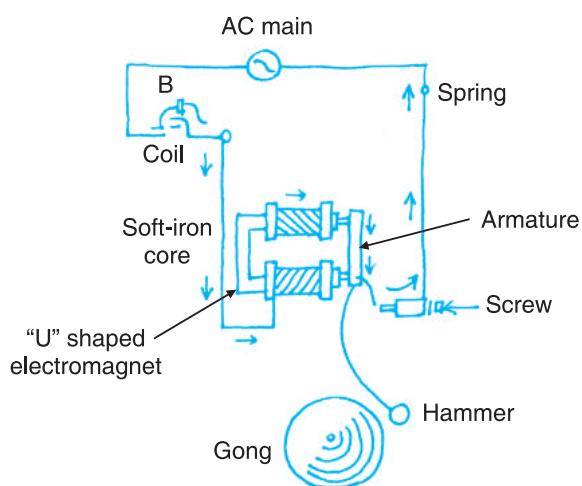

Fig. 17.9 Electric bell
The poles of the electromagnet are connected to a power supply (battery or main). Between this a push button (B) is attached as shown in Fig. 17.9. When the push button is pressed, current starts flowing in the coil of the electromagnet and its soft iron 'core' gets magnetized. This magnetized core pulls the armature attached to the